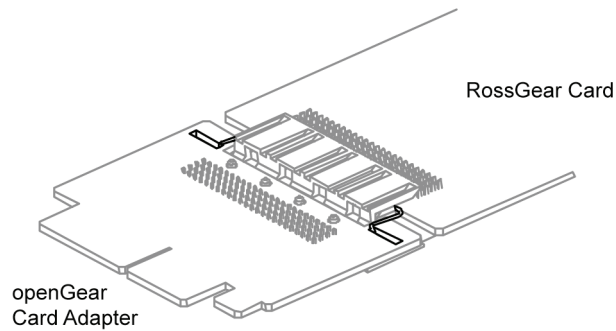

Figure 11. openGear Card Adapter and RossGear Card Orientation
2. Flip the cards over so that the silkscreen logos face the surface. The openGear Card Adapter will still be on your left. Refer to **Figure 11** for orientation.